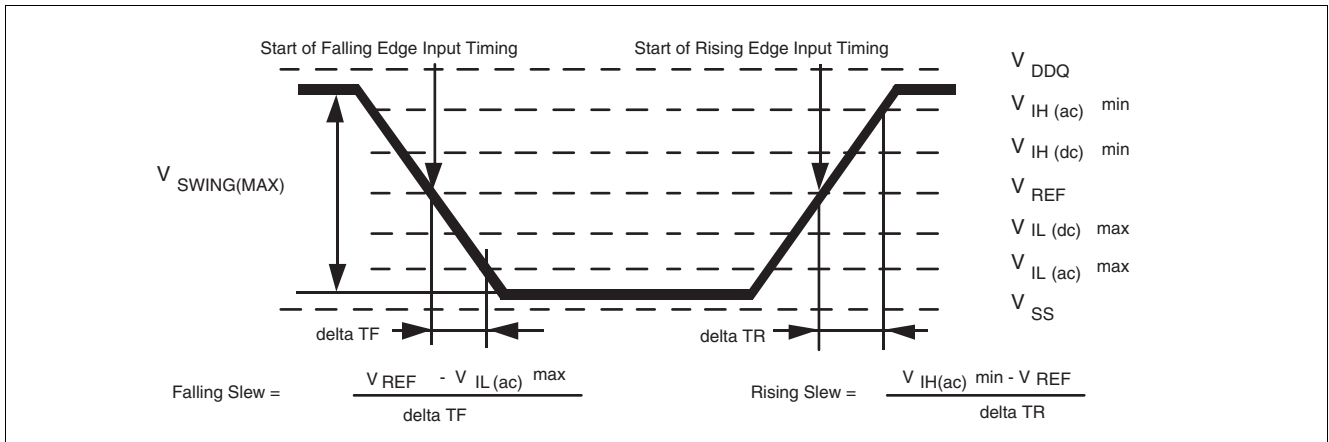

Figure 61 Single-ended AC Input Test Conditions Diagram
2) The input signal minimum Slew Rate is to be maintained over the range from $V_{IH(ac)min}$ to V_{REF} for rising edges and the range from V_{REF} to $V_{IL(ac)max}$ for falling edges as shown in Figure 61